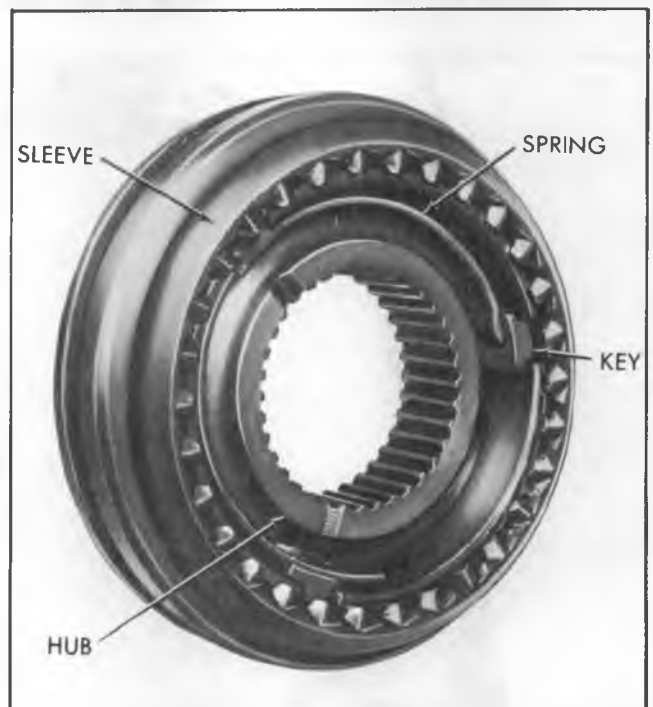

Fig. 14X—Three-Four Synchronizer Assembly
3. Place the three keys and two springs in position (one on each side of hub), so all three keys are engaged by both springs (fig. 14X). The tanged end of each synchronizer spring should be installed into different key cavities on either side. Slide the sleeve onto the hub aligning the marks made before disassembly.